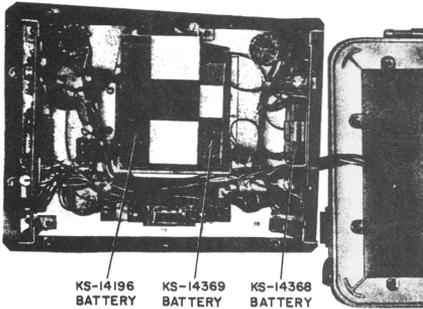

Fig. 20—Battery Replacement in L8 Control Unit
9.03 Disconnect the L9 power cord and connect the L10 tone cord to the L8 control unit. Short the clips of the L10 tone cord (Fig. 20).